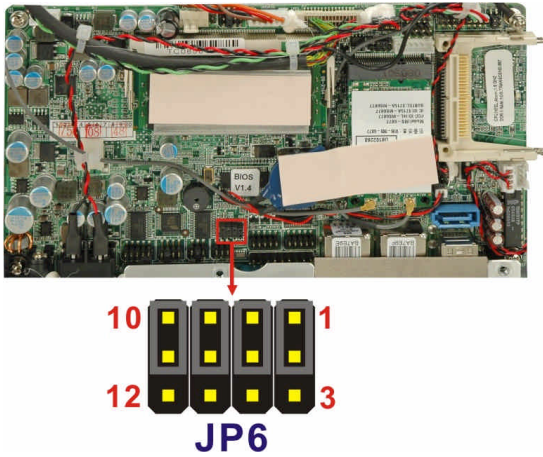

Figure 1-11: COM3 RS-232/422/485 Serial Port Select Jumper Location
- Jumper Location:** See **Figure 1-11**
The COM3 RS-232/422/485 Serial Port Select jumper location is shown in **Figure 1-11**.